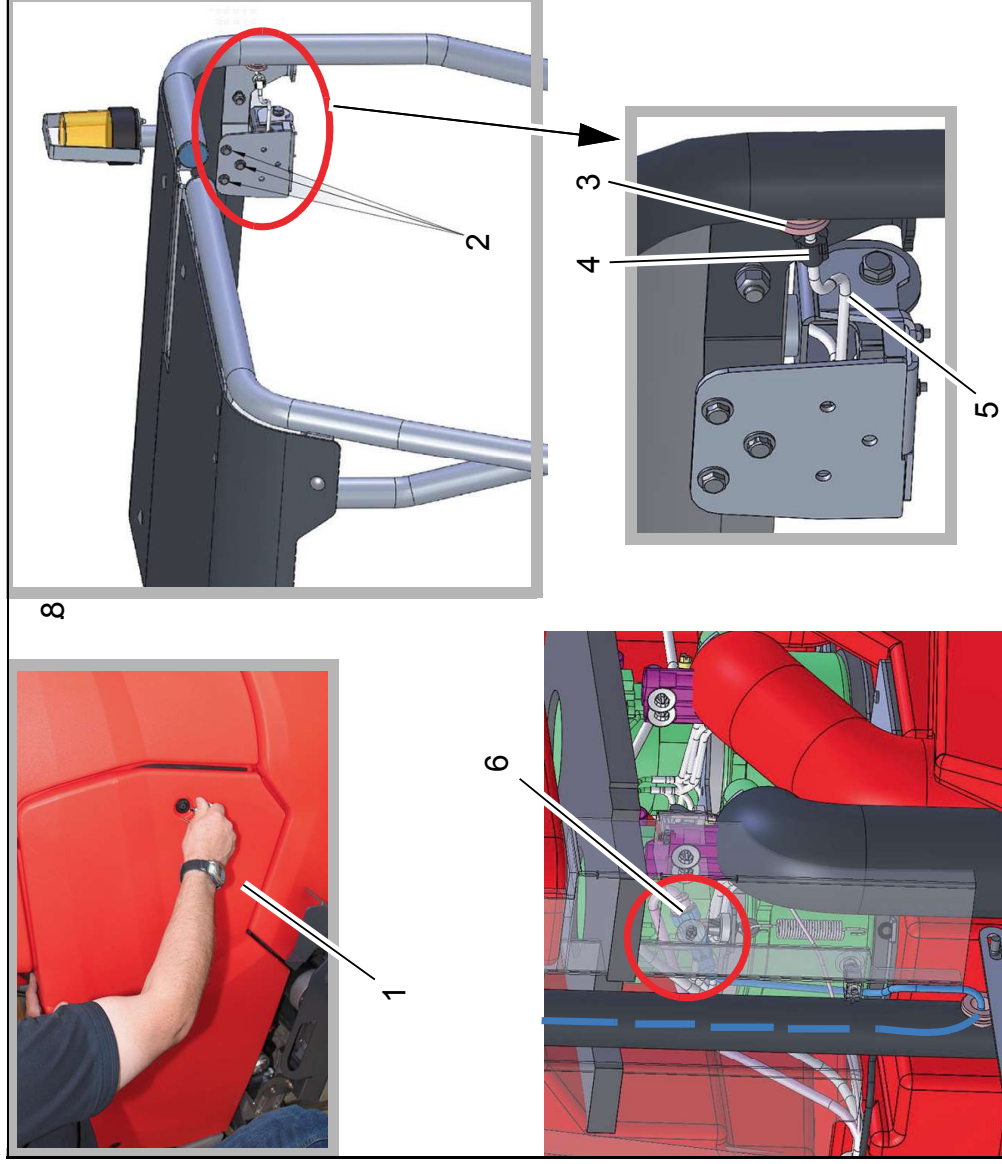

Fig. 2
1. Remove side panelling with provided wrench (Fig. 2/1).
2. The flashlight is fitted to the left rear overhead guard from the inside using the three M6x16 screws and the washers (Fig. 2/2). When tightening the screws it must be ensured that the flashlight is aligned in a vertical position.
3. Remove cable sleeve (Fig. 2/3) from tube. Lead plug of cable loom W 66 through the cable sleeve. Lead plug through opening of tube to lower opening in tube. Re-insert cable sleeve.
7. Connect X65 to plug of W 3 with the same name (Fig. 2/6). Secure plug to plate with cable ties.